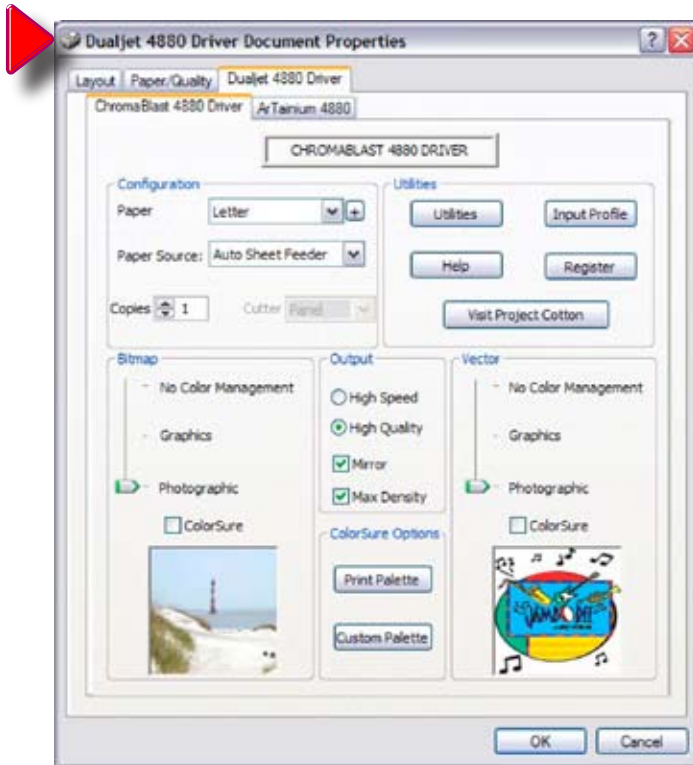

Figure 3
3. The **DualJet 4880 Driver Document Properties Screen** appears as shown. (Fig. 3)
4. Select either the **ChromaBlast 4880 Driver Tab**, or the **ArTainium 4880 Hybrid Driver Tab**, depending on the type of printing and substrate called for. (Fig. 3)